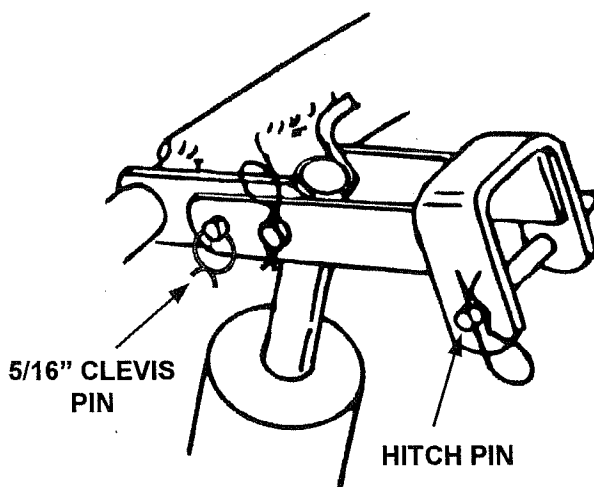

FIGURE 29
1. (See figure 29) When the cylinder stop bracket is not needed, it can be stored on the cylinder as shown.